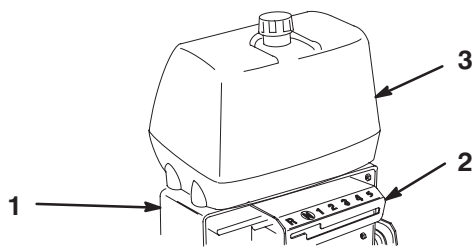

Figure 2
2. Slide the control panel under the bottom of the rear frame (Fig. 2).
3. Align fuel tank with the top of the rear frame (Fig. 2).